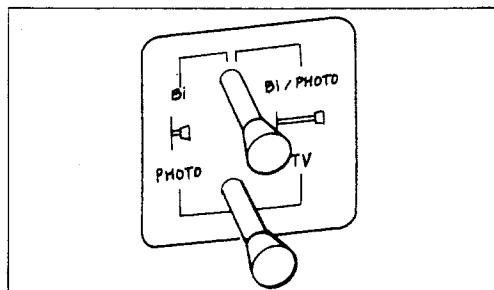

Fig. 69
- ① Observe the specimen following each microscopic procedures.
- ② Set the position of optical path change over knobs as shown in Fig. 69.